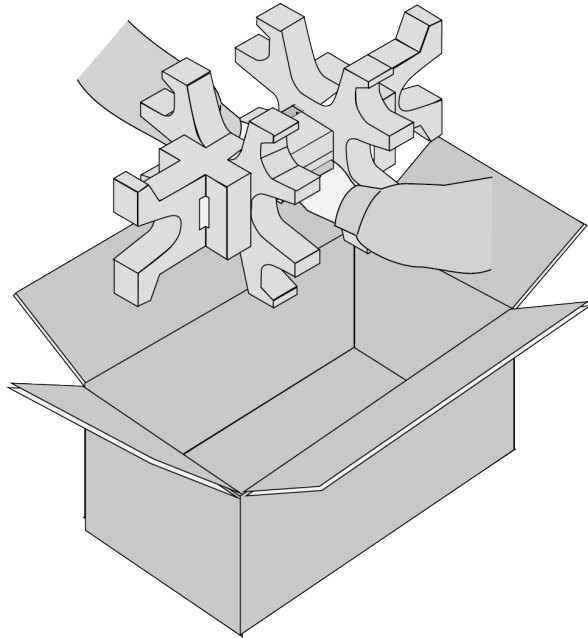

Figure 35. Removing the Power Supply from the Shipping Box
3. Lift the AC power supply from the shipping box and place it on a level, secure table. Refer to Figure 35 on page 83.